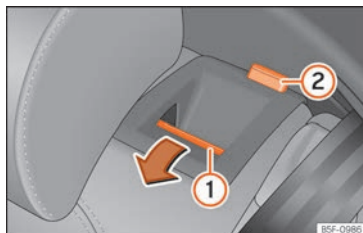

Fig. 67 Rear seat: folding down the backrest.
- Press the unlock button >>> Fig. 67 1 forwards and at the same time fold the backrest down. The rear seat backrest is not engaged when the red marking of the button 2 is visible.